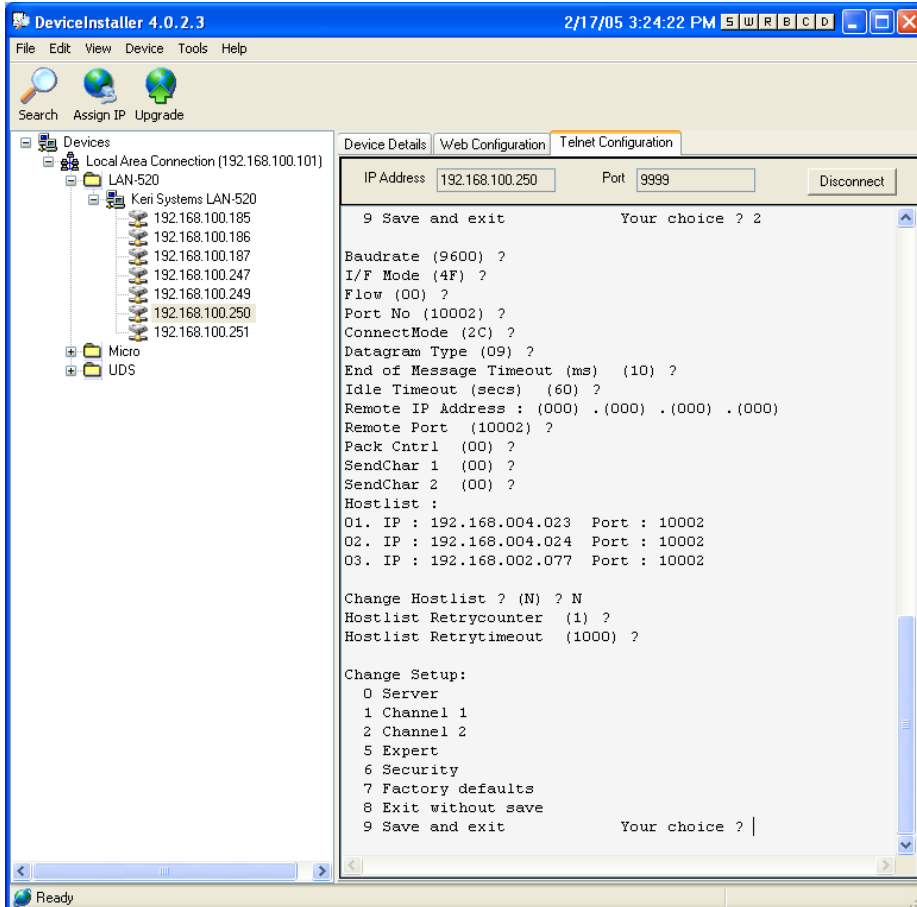

Figure 5: Correct Channel 2 Configuration Parameters - Master Unit
11. Once all the IP addresses and Port numbers have been entered, enter an IP address of 0.0.0.0 to exit and press N when the “Change Hostlist? (N)” option is displayed (see Figure 5).